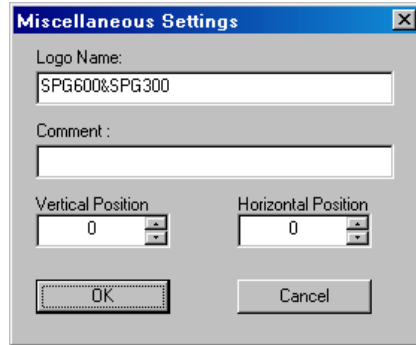

Figure C-3: Miscellaneous Settings dialog box
Miscellaneous Settings Dialog Box. The Miscellaneous Settings dialog box (see Figure C-3) appears when you click the **Miscellaneous** command.
5. Select **Miscellaneous** from the **Settings** pull-down menu to open the Miscellaneous Settings dialog box shown in Figure C-3 on page C-8.